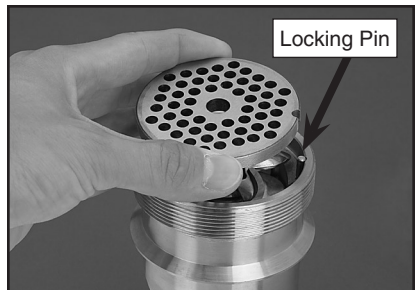

Figure 4. Cutting plate installation
7. Slide the cutting plate over the shaft and the locking pin located at the bottom the barrel (Figure 4).